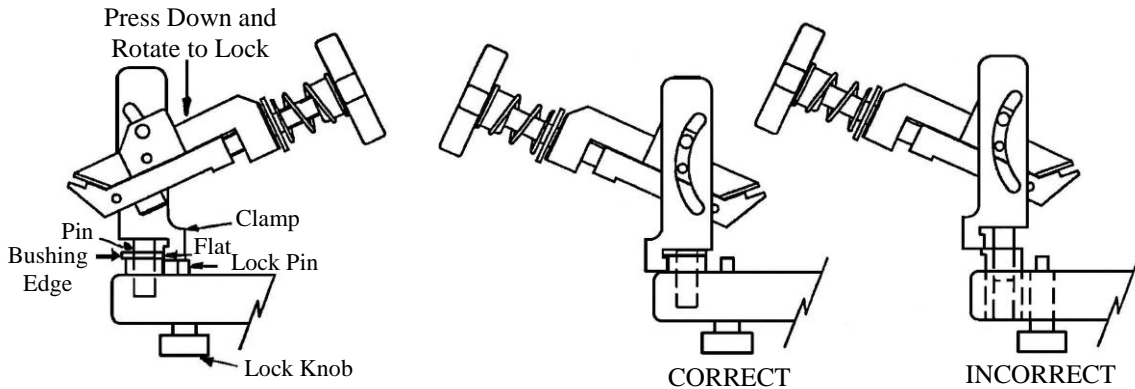

Figure 9
8.3.8 Attaching The Blade Clamp Onto The Support Arm Assembly (See Fig. 9)